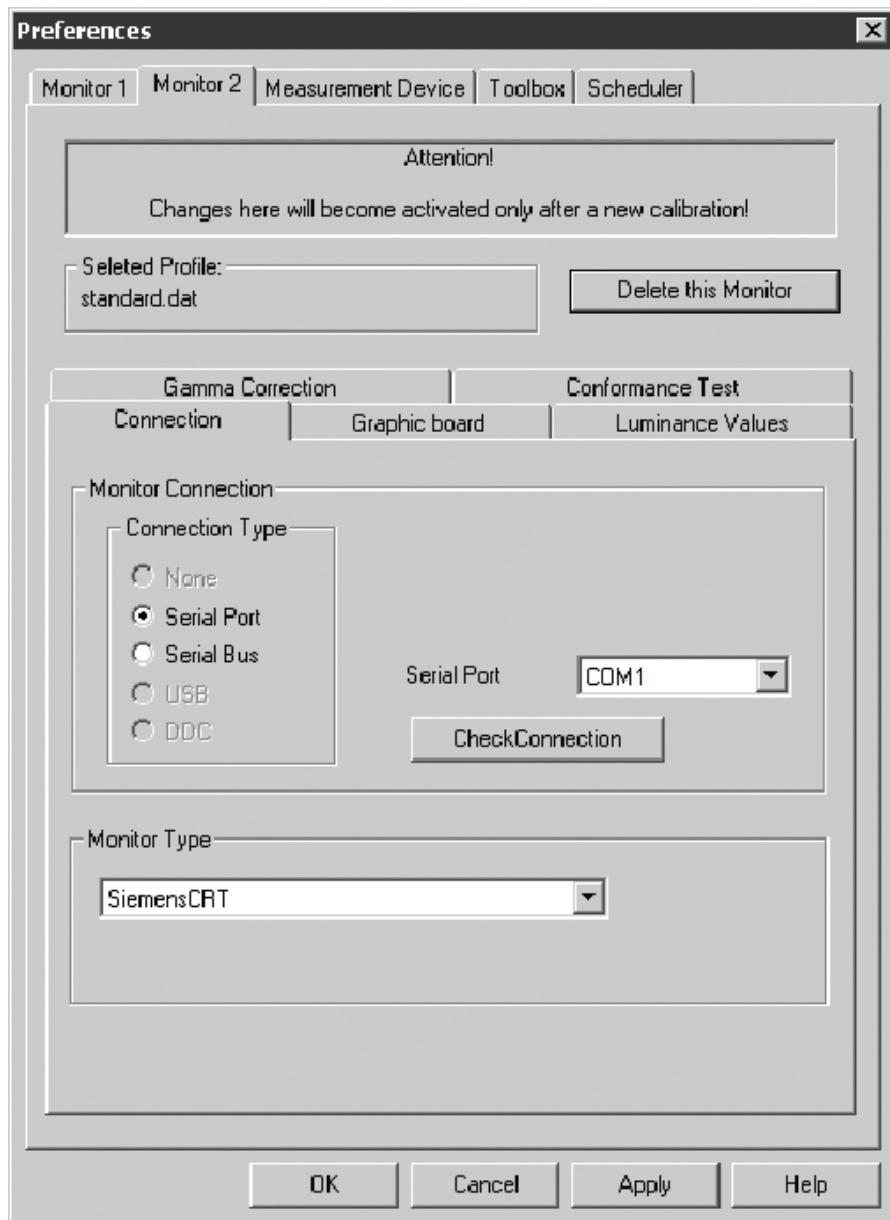

Fig. 12 Preferences of Monitor 2
1. Lead the cables through the tilt & swivel base and the back cover (see cable leading of other monitor types, Figure 12). To fix the connection box to the operating panel, use the full length of the cable stored in the connection box.